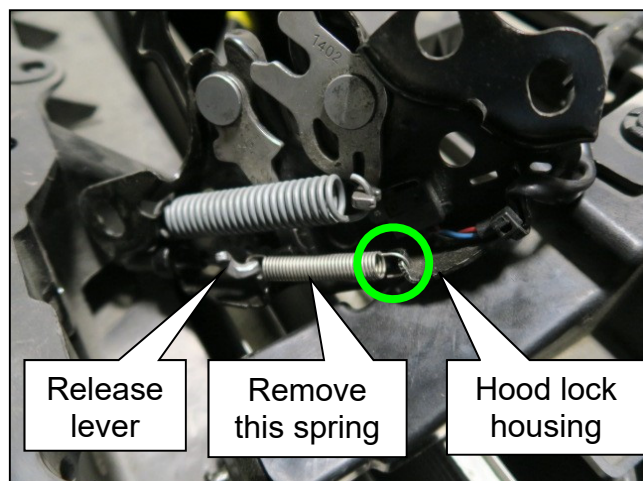

Figure 10
- Pull the spring end shown in Figure 10 out of the hood lock housing.